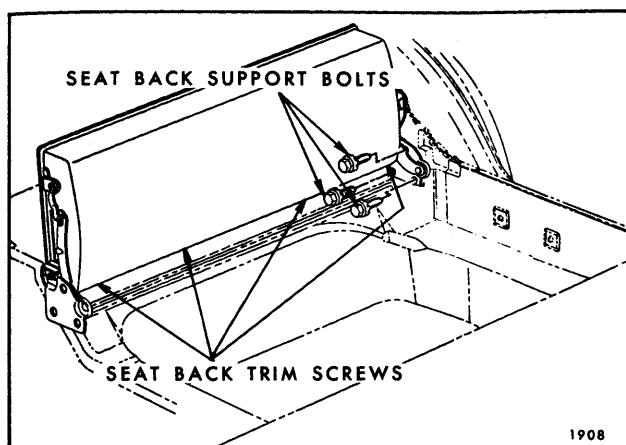

Fig. 10-54—Folding Third Seat Back
2. Remove four screws securing lower edge of seat back trim to seat back panel. (See Fig. 10-54).